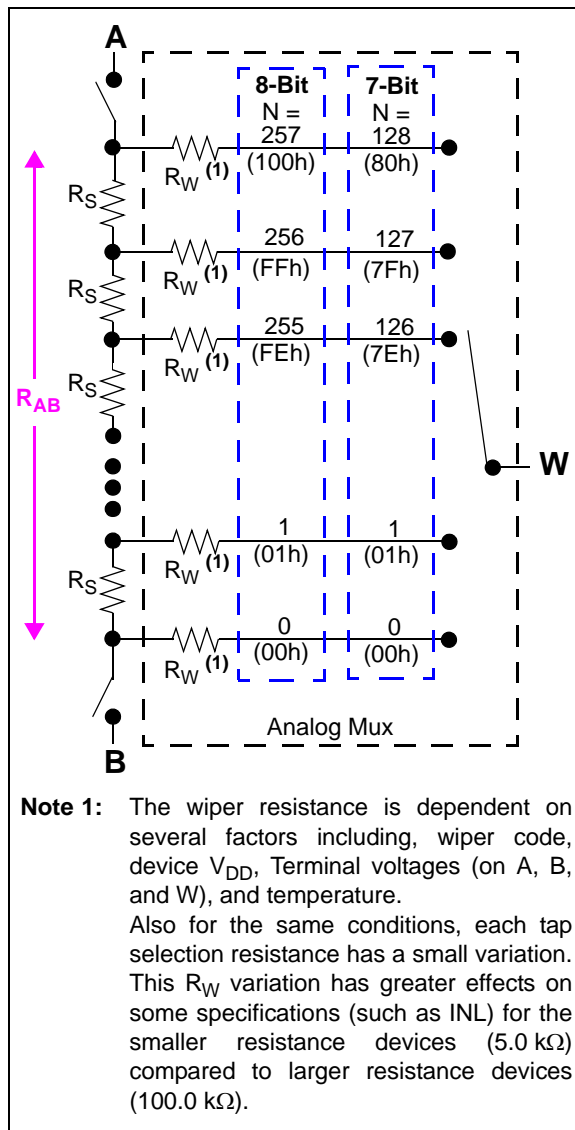

FIGURE 5-1: Resistor Block Diagram.
The Resistor Network has either 7-bit or 8-bit resolution. Each Resistor Network allows zero scale to full scale connections. Figure 5-1 shows a block diagram for the resistive network of a device.
The resistor ladder is a series of equal value resistors (RS) with a connection point (tap) between the two resistors. The total number of resistors in the series (ladder) determines the RAB resistance (see Figure 5-1). The end points of the resistor ladder are connected to analog switches which are connected to the device Terminal A and Terminal B pins. The RAB (and RS) resistance has small variations over voltage and temperature.